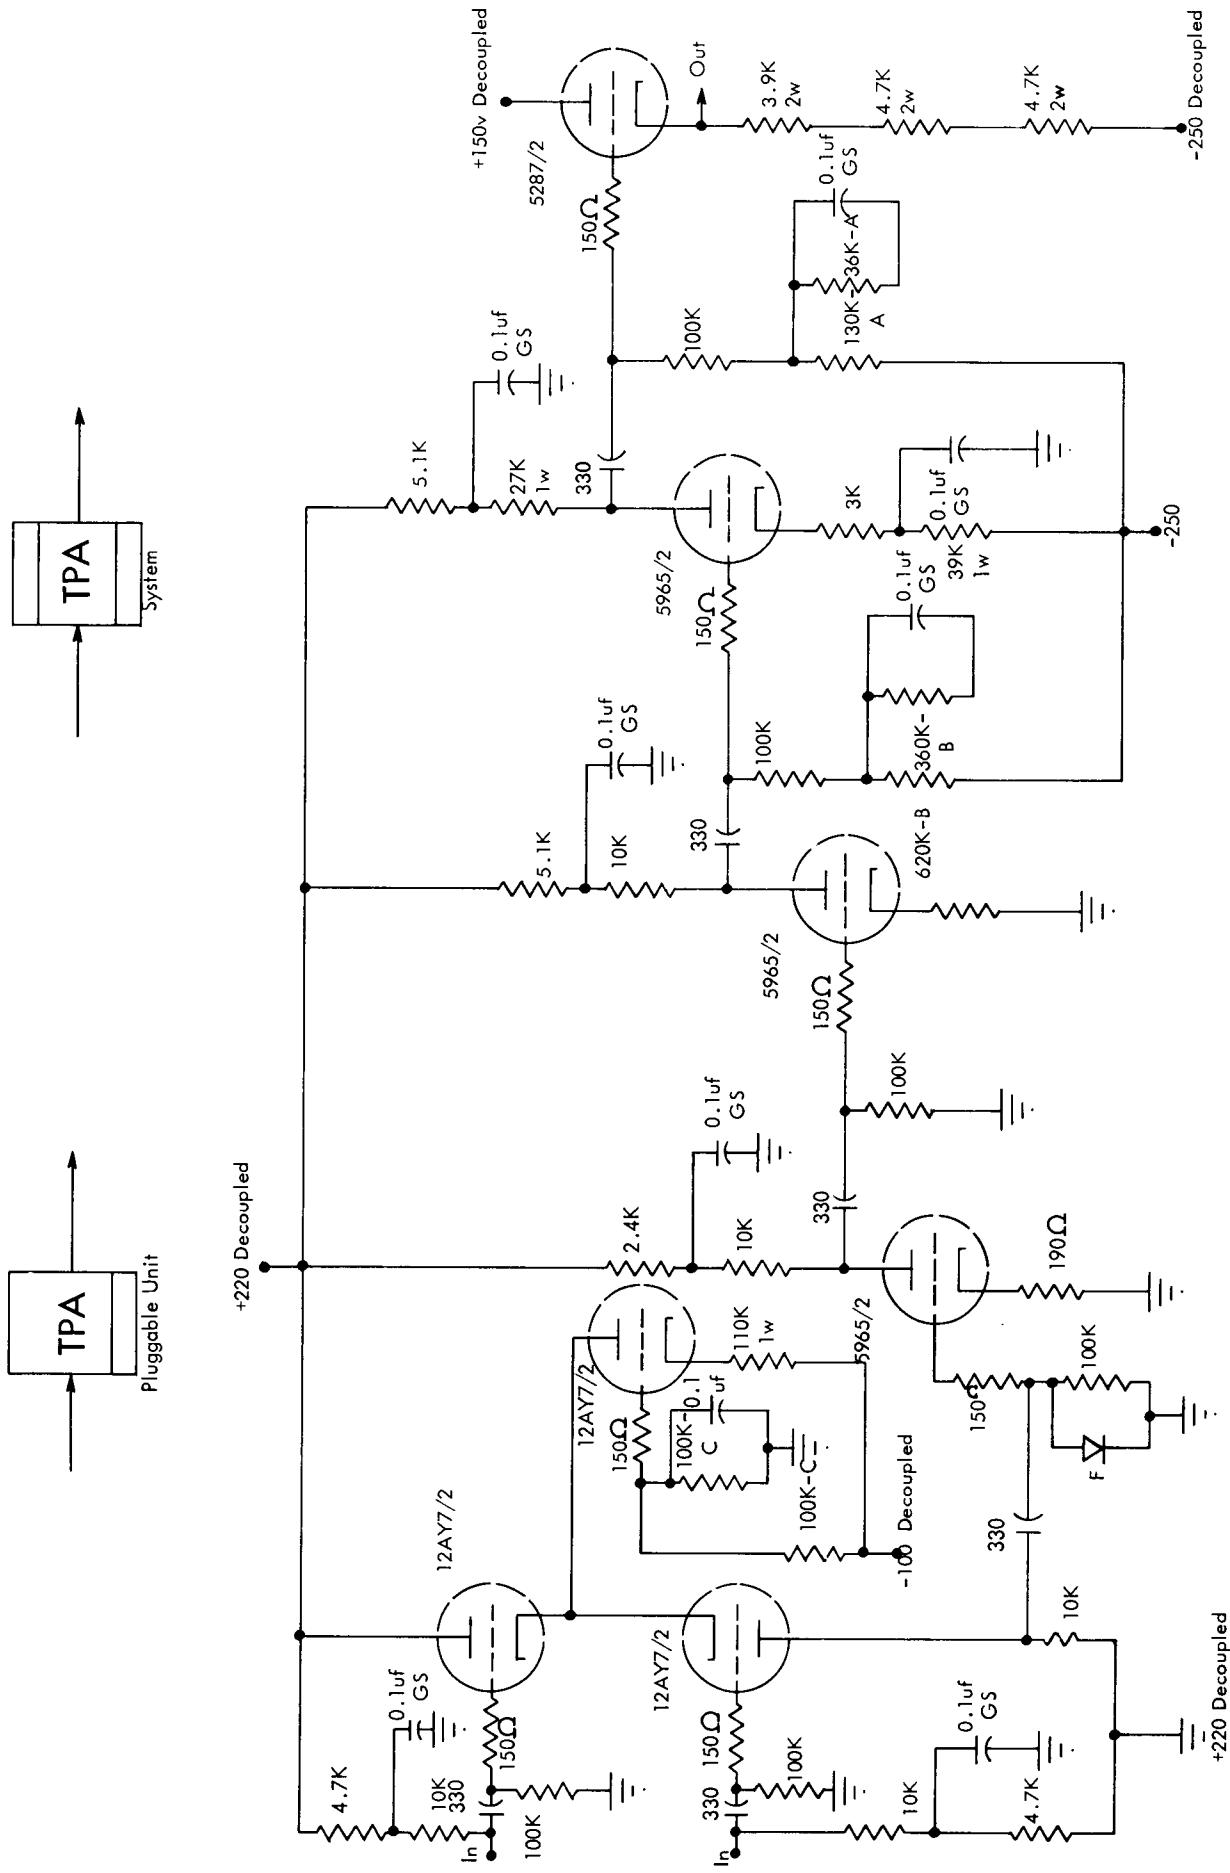

FIGURE B55. TIMING PULSE AMPLIFIER (TPA)
The TPA is shown in Figure B55. Except for the input stage, this amplifier is similar to the drum amplifier (AD). The output of this stage is developed across the 10K resistor in the lower half of the first duo-triode circuit. Now, if the voltages induced from the write circuits are large enough, some of this voltage is fed through the  $PA_T$  into the first stage of the TPA. This voltage, along with the common mode variation is fed into the two input terminals approximately in phase. Consider an instance when the two grids take a positive excursion. The top half of the tube, being a cathode follower, pulls the cathode in the positive direction. This cathode shift is about the same in magnitude as the input shift. This same shift is also applied to the lower half of the tube. Both grid and cathode go positive by the same amount. The current across the 10K plate resistor changes very little. The unwanted signal is rejected.